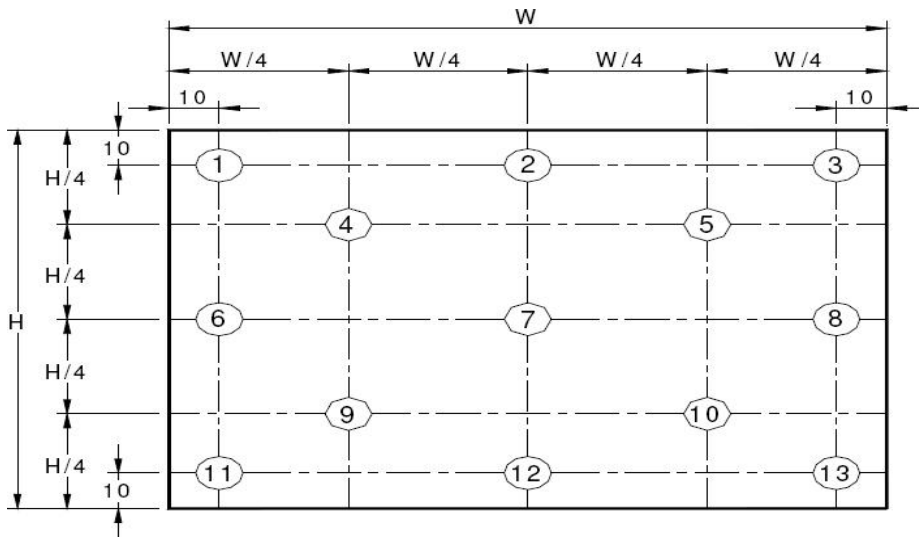

Figure 9. Uniformity Measurement Locations (13 points)
4. The White luminance uniformity on LCD surface is then expressed as :  $\Delta Y = \text{Minimum Luminance of 9(or 13) points} / \text{Maximum Luminance of 9(or 13) points.}$ (see Figure 8 and Figure 9).
The White luminance uniformity on LCD surface is then expressed as :  $\Delta Y5$  = Minimum Luminance of five points / Maximum Luminance of five points (see Figure 8) ,  $\Delta Y13$  = Minimum Luminance of 13 points /Maximum Luminance of 13 points (see Figure 9).